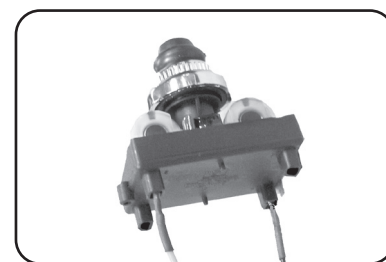

Fig. 40-2 Spark generator
8. Reinstall the top panel. See the TOP PANEL REMOVAL section. When connecting the igniter wires, the wires can be plugged into any terminal (Fig. 40-2).